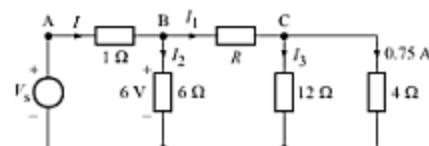

Fig. 2.45
19. In the circuit shown in Fig. 2.45, find (a) R and V_s , and (b) the power delivered by the source V_s .